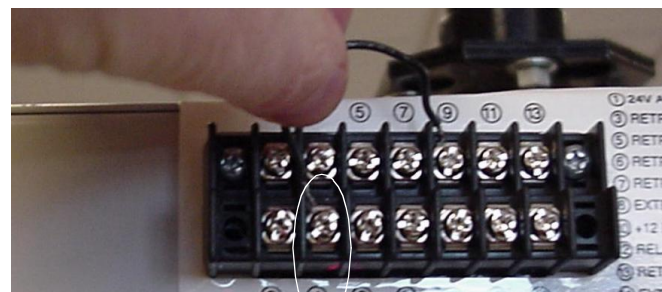

Figure 20. Contacts Connection
3. For extend, complete the circuit to terminal #4 (see Figure 20).